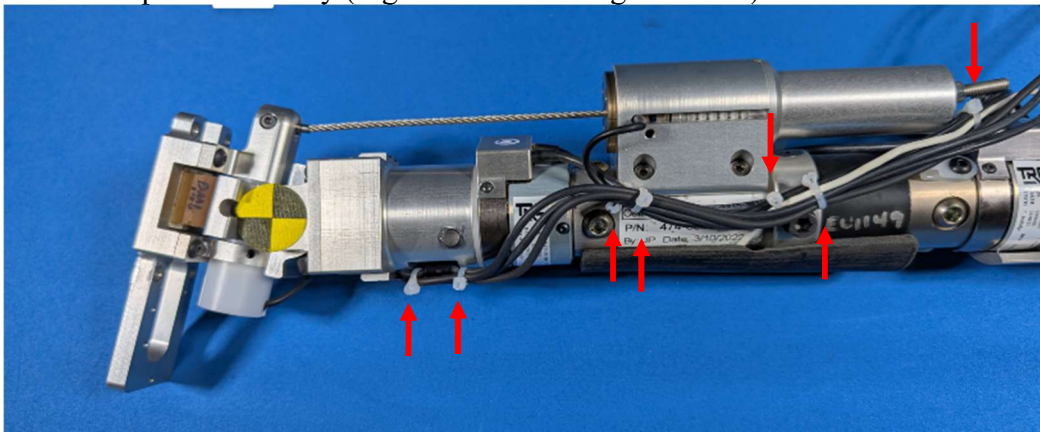
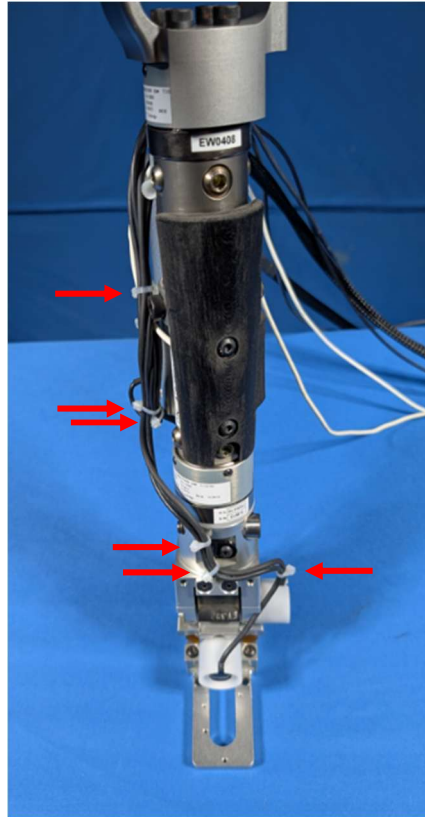

Figure 13-32. Tie-wrap locations for lower leg and ankle instrumentation (lateral view)
Figure 13-33. Tie wrap locations for lower leg and ankle instrumentation (frontal view)
13.4.4.1 Route the ankle and leg instrumentation wires up the inside of the tibia, add tie wraps as necessary (Figure 13-32 and Figure 13-33).